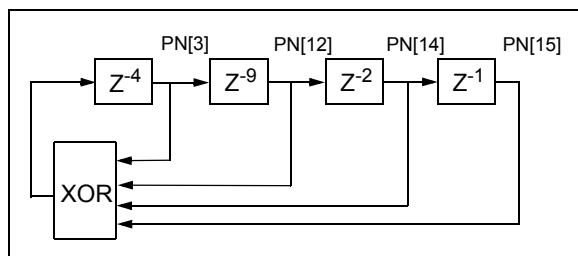

FIGURE 4-27: Block Diagram of 16-bit LFSR for Pseudo-Random Number (PN) Sequence for Output Test Pattern.
4.12.12.1 Pseudo-random Number (PN) Sequence Output
When TEST_PATTERNS<2:0> = 111, the device outputs a pseudo-random number (PN) sequence which is defined by the polynomial of degree 16, as shown in Equation 4-11. Figure 4-27 shows the block diagram of a 16-bit Linear Feedback Shift Register (LFSR) for the PN sequence.